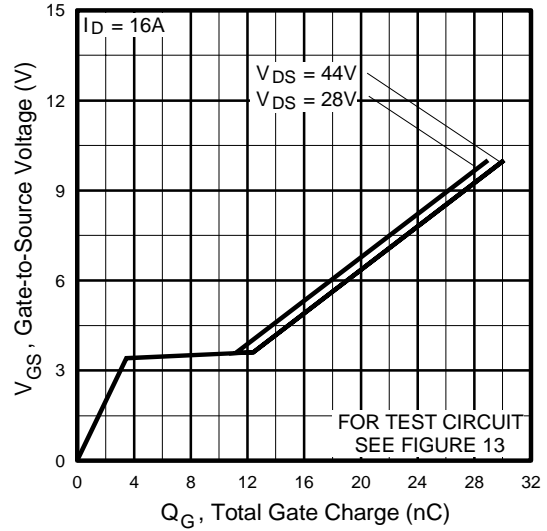

Fig 6. Typical Gate Charge Vs. Gate-to-Source Voltage
| Q_{gd} | Gate-to-Drain ("Miller") Charge | — | — | 14 | | $V_{GS} = 5.0V$, See Fig. 6 and 13 ④ ⑦ |